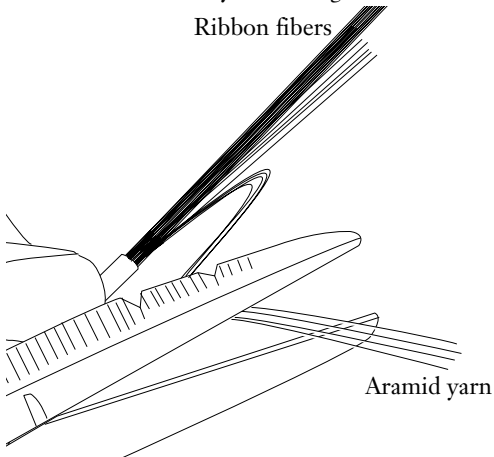

Figure 5
4.5 Cut the aramid yarn to length with scissors (Figure 5).